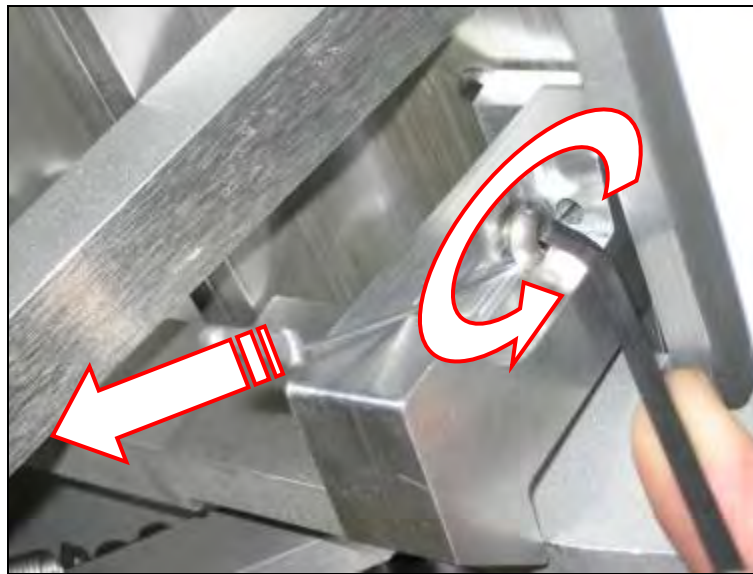

Figure 53
1. Dock the table, close the bridge and advance the patient support roughly 6" - 8" (152.4mm to 203.2mm) into the scanner. While the patient support is advanced and the no-undock hook is in the down position against its travel stop, pull the cable firmly downward and tighten the round head screw with a 5/32" Allen key so the cable can slip behind the screw head if the cable is pulled with moderate force. (Figure 53).